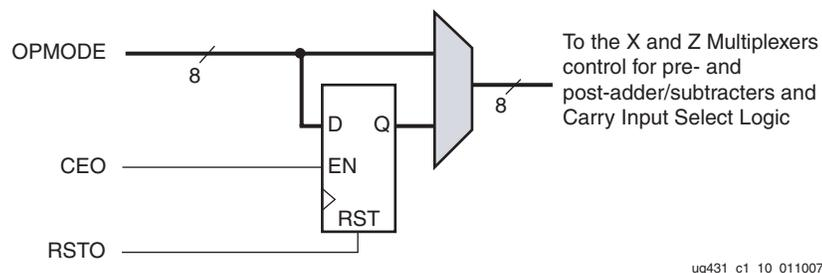

Figure 1-11: OPMODE Port Logic
- The CARRYINREG and OPMODEREG attributes take a value of 0 if no pipelining register is on these paths, and they take a value of 1 if there is one pipeline register in their path. The CARRYINSEL and OPMODEREG paths are shown in Figure 1-11, and the CARRYINREG path is shown in Figure 1-13. CARRYINREG and OPMODEREG both take a default value of 1 (registered).
The registers have independent clock enables and resets, described in Table 1-2 and shown in Figure 1-3. The OPMODE registers are reset by RSTO. The OPMODE register has a separate enable labeled CEO. Figure 1-11 shows the OPMODE port logic.
The OPMODE inputs provide a way for the design to change its functionality from clock cycle to clock cycle (for example, when altering the initial or final state of the DSP48A relative to the middle part of a given calculation). The OPMODE bits can be optionally registered under the control of the configuration memory cells (as denoted by the gray MUX symbol in Figure 1-11).